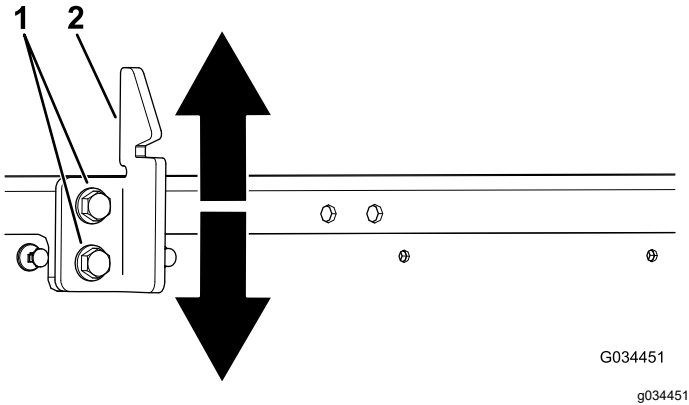

Figure 68
3. Loosen the 2 bolts on the bed-latch striker and move the striker up or down, depending on if the striker is too high or too low (Figure 68).
4. Tighten the 2 bolts on the bed-latch striker (Figure 68).